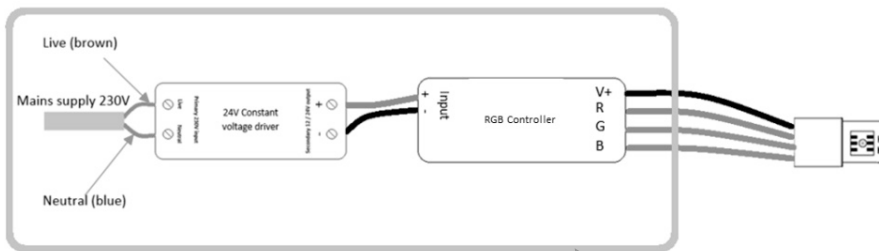

Fig 2 • Wiring diagram as reference only, driver may differ
- From the secondary side of the driver connect a red and black cable to the input side of the RGB controller ensuring correct polarity is observed (+ Red) (- Black) (see Fig 2)
- Terminate cables from the RGB strip to the RGB controller (clear to V+) (red to R) (green to G) (blue to B) (See Fig 2)